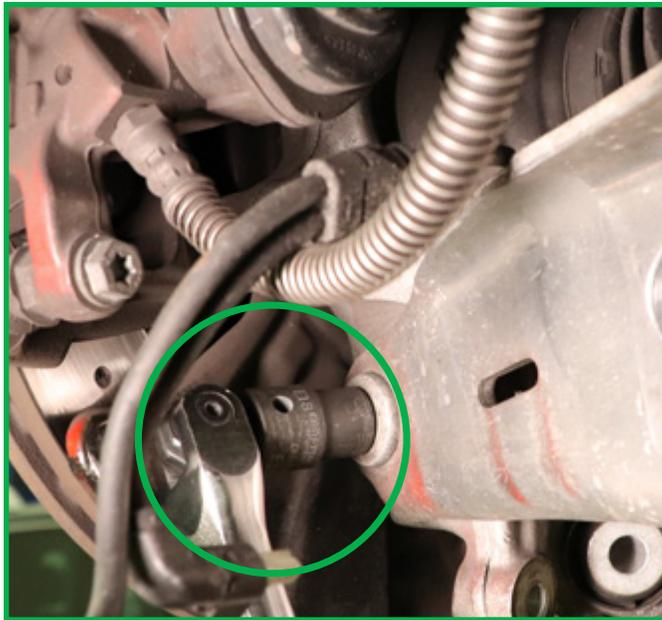

FIGURE 31
5. Tighten control arm to wheel carrier bolt. Tighten to manufacturer's specifications. (Figure 31)